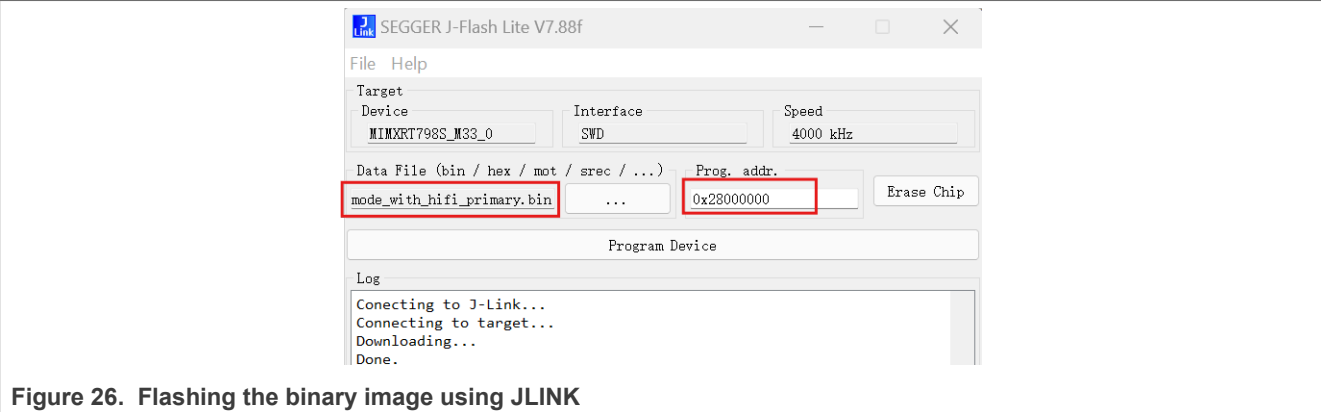

Figure 26. Flashing the binary image using JLINK
10. Download the generated binary to the flash address `0x28000000`. Figure 26 provides an example of using **JLINK** to download a binary to the address `0x28000000`.